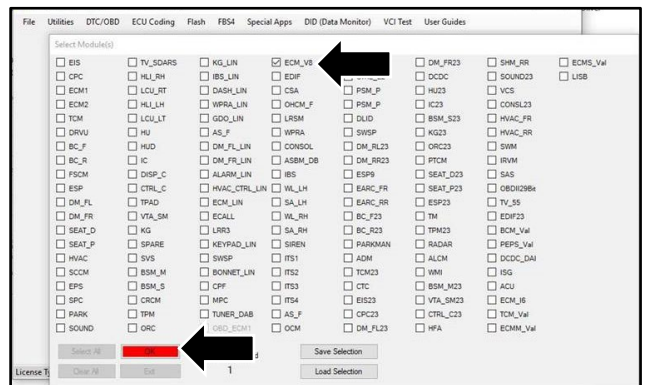

Figure 6
- 15. Select "ECM_V8" then "OK" (refer to Figure 6).